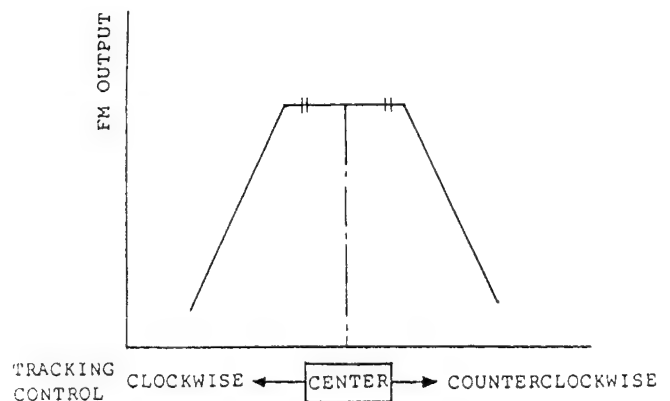

Fig. 3-14
- 10) Turn the TRACKING control to the left and right from the centre click position and check that the FM output is maximum at the centre position and starts to drop at the same gradient on the left and right. If the above conditions are satisfied, the X-value adjustment is correct. (See Figs. 3-14, 3-15)